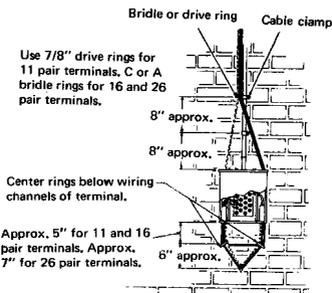

FIGURE 6. Building Mounted Cable Terminal (Top Entrance)
- 4.07 Place wiring facilities for cable terminals mounted on buildings according to Figures 6 and 7.